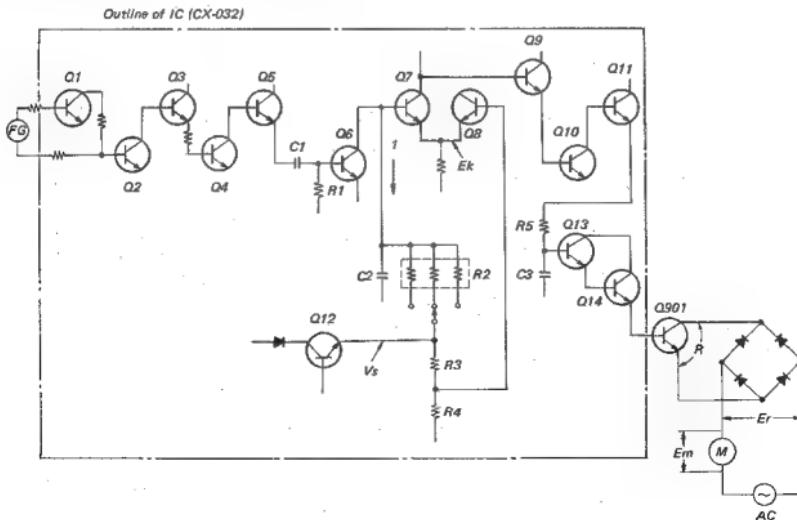
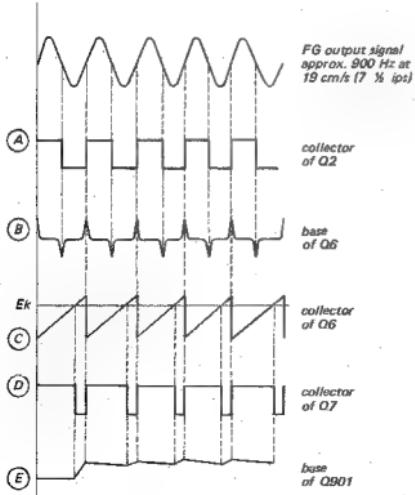

Fig. 9. Servo amplifier outline
Fig. 10. Waveform at each point
Servo amplifier which changes impedance R operates as follows: See Fig. 9 and Fig. 10.
- 1) Sine wave signal generated by frequency generator FG is transferred to bases of Q1 and Q2. Since base bias voltages of Q1 and Q2 are set to saturation region, sine wave signal is waveshaped to square wave signal shown by (A) in Fig. 10.
- 2) Square wave signal from Q2 is amplified by Q3, Q4 and Q5. It is transferred to differentiating circuit comprising C1 and R1 and is waveshaped to pulse shown by (B) in Fig. 10. Then it is transferred to base of Q6.
- 4) V_s also charges C2 according to the time constant decided by C2 and R2. The charged voltage is applied to collector of Q6. When pulse shown by (B) in Fig. 10 is transferred to base of Q6, Q6 repeats ON and OFF states. C2 discharges while Q6 makes current flow as shown by the arrow (1) in Fig. 9. Thus sawtooth wave signal shown by (C) in Fig. 10 is obtained at collector of Q6.
- 5) The sawtooth wave signal is supplied to base of Q7. Since the emitter voltage E_k is kept constant, Q7 turns ON only when the peak value of sawtooth wave signal is greater than E_k . When Q7 turns ON, the negative pulse shown by (D) in Fig. 10, appears at collector of Q7.
- 6) This pulse is amplified by Q9, Q10 and Q11, and its polarity is inverted. The positive pulse is transferred to the integrator comprising R5 and C3, and is waveshaped as shown by (E) in Fig. 10. After being amplified by Q13 and Q14, it is transferred to base of Q901. And this base voltage changes impedance between collector and emitter of Q901 and controls motor speed.